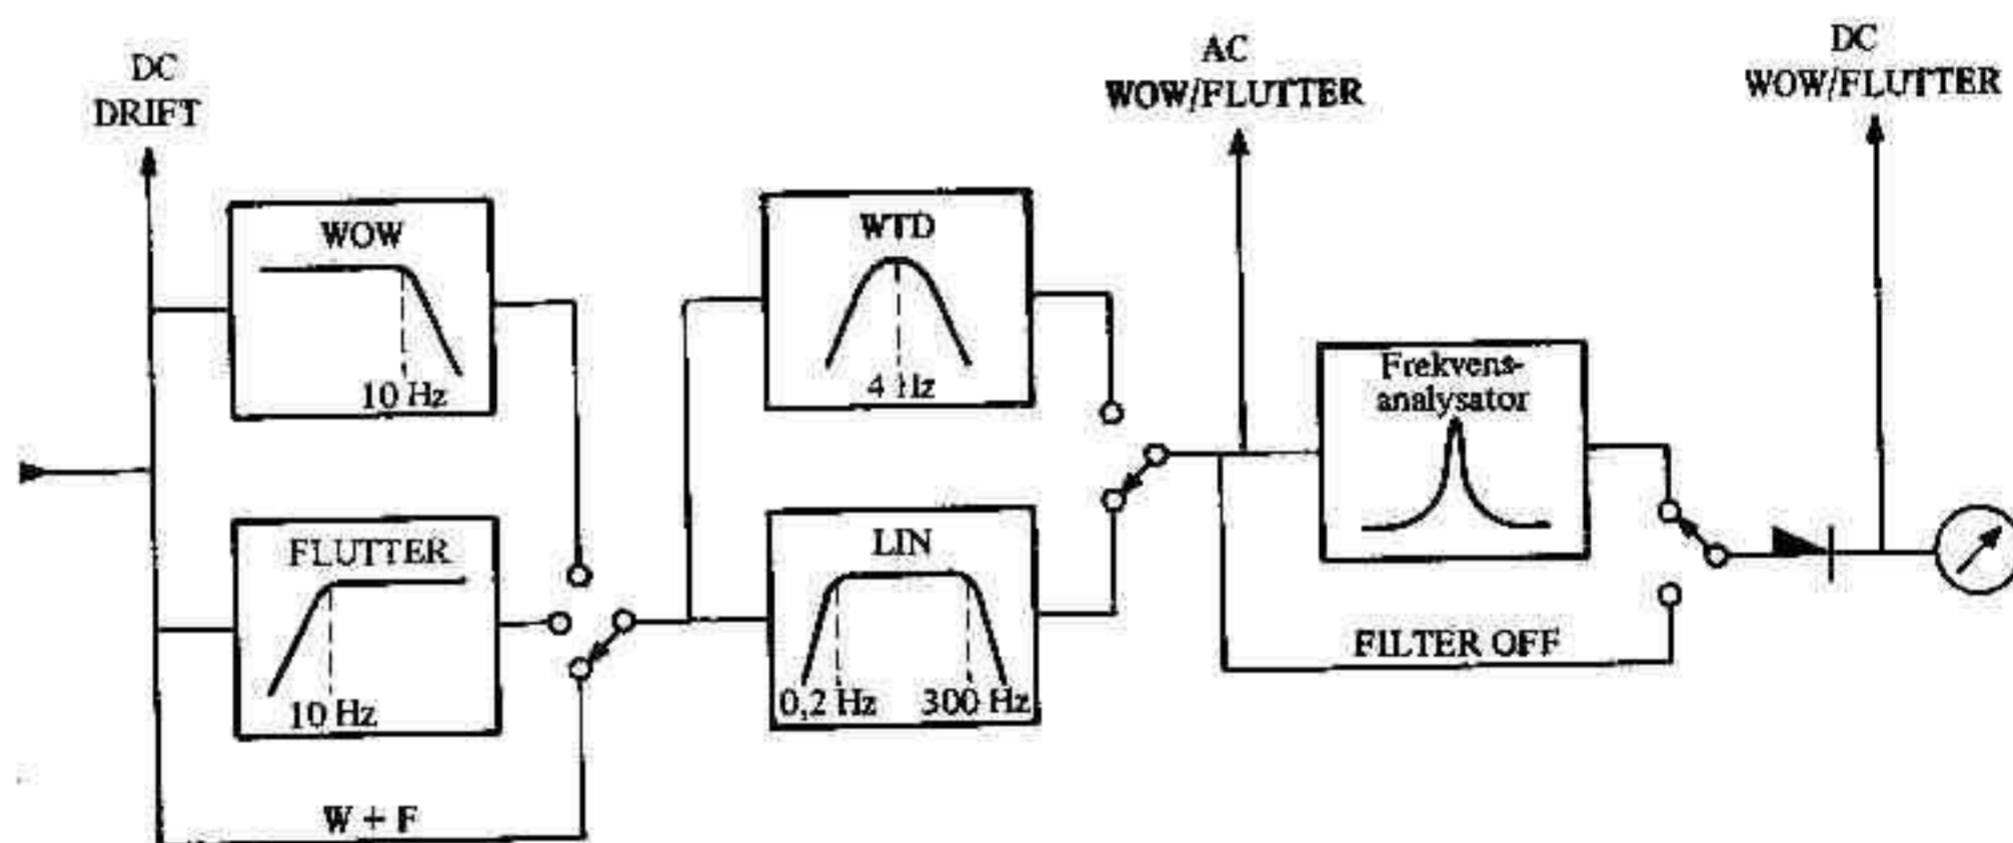

Fig. 6. Block diagram of the filter section of the WM1.
The WM1 incorporates a number of filters specially intended for such analysis of the wow and flutter spectrum (Fig. 6).
#### Monitor Outputs (Fig. 6)
1. The DC DRIFT output voltage is analogous to the DRIFT meter (3) deflection and is equal to  $\pm 1$  V DC at full scale.
2. The AC WOW/FLUTTER output voltage is analogous to the FLUTTER meter (6) deflection and identical to the wow and flutter signal before the frequency analyser (see Fig. 6). The WOW, FLUTTER, WTD and LIN filters may thus be employed in conjunction with this output. For sine-wave modulated wow and flutter the output voltage is equal to 1 V AC at full scale.